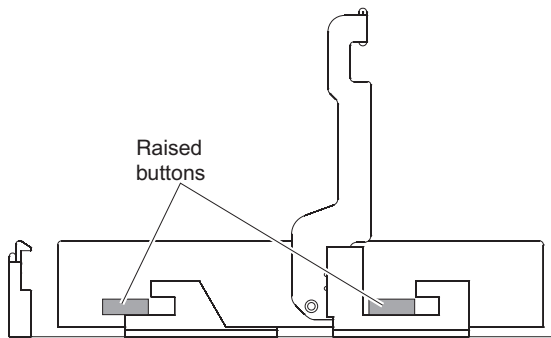

Figure 72. Aligning the drive
- b. Align the two raised buttons on each side over the matching gap in the drive channel on the drawer, as shown in Figure 72 on page 103.